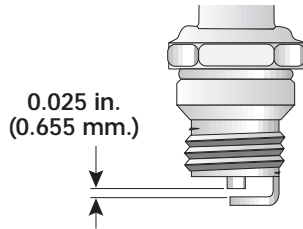

Fig. 47
3. Replace cracked, fouled or dirty spark plug. Set the air gap at 0.025 in. (0.655 mm.) using a feeler gauge (Fig. 47).